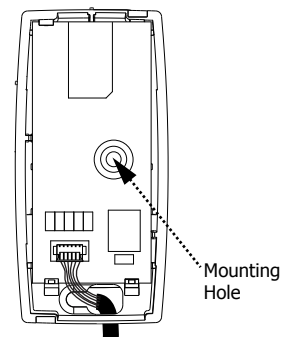

Figure 4: 763 Mounting Hole Location
The enclosure for the module should be mounted using the supplied screw in the mounting hole. See Figure 4. Mount the 763 in a secure, dry place to protect the module from damage due to tampering or the elements. It is not necessary to remove the PCB when installing the enclosure.
3. Hold the transmitter base in its mounting location and place the supplied screw into the mounting hole location to secure the housing to the surface. See Figure 4.